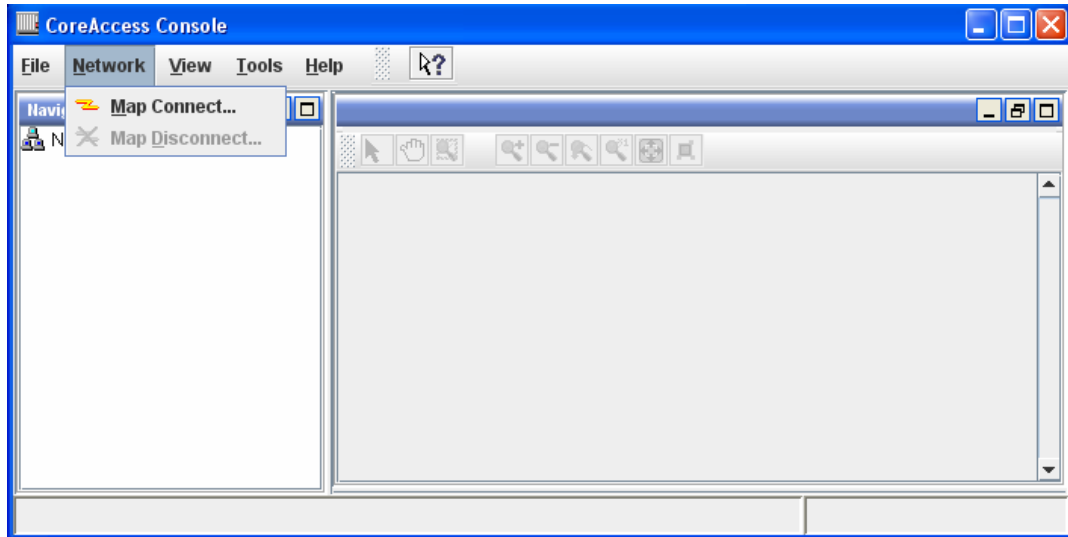

Figure 14 – CoreAccess Console Main Screen
- From the menu bar on the main CoreAccess Console screen as shown in Figure 14 below, select Network>Map Connect.